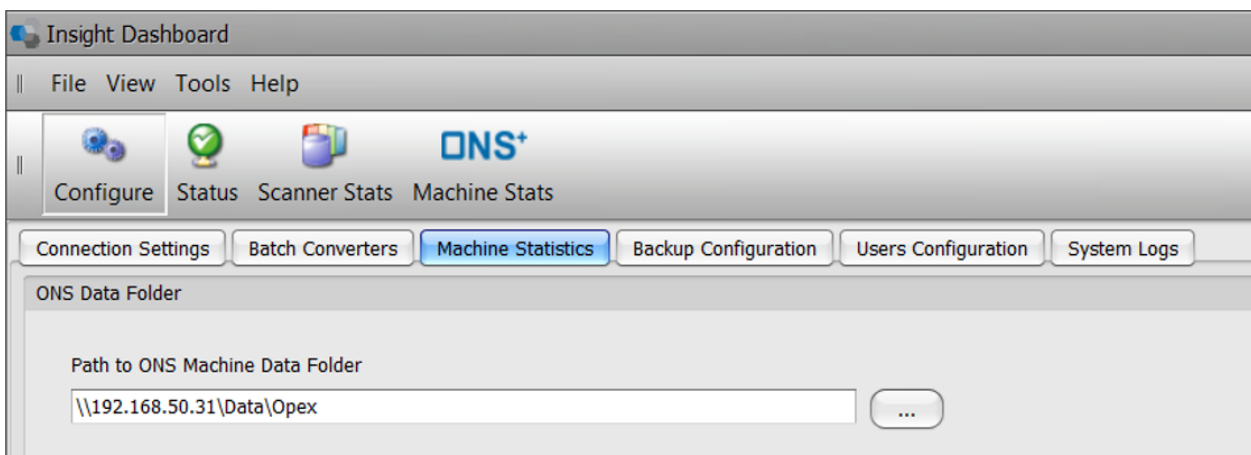

Figure 6-4: Path to ONS Machine Data Folder
- Insight stats from each OPEX machine are written to the network share location (Figure 6-4). The shared directory must be named “Opex.”